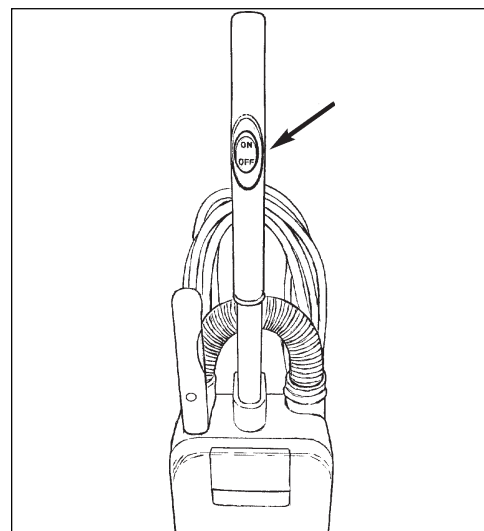

Figure 9
**The ON/OFF Switch** (See figure 9)
3. Put the ON/OFF switch in the "I" position (see figure 9).